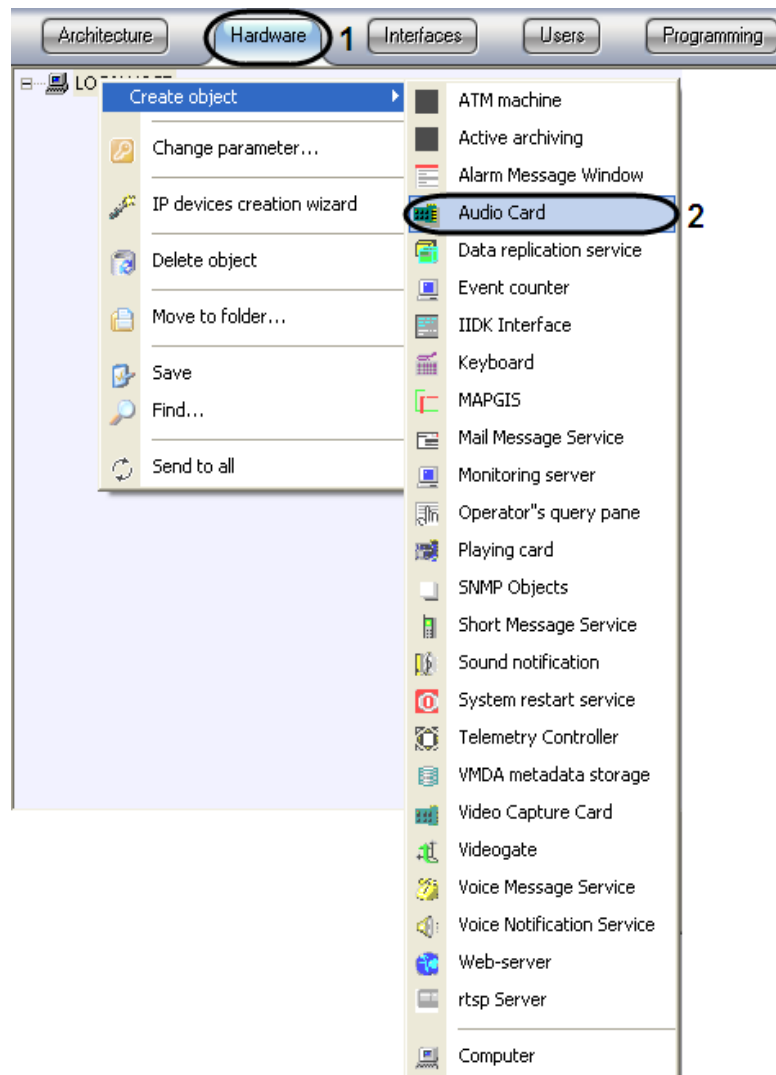

Figure 3.1-12 Context menu of the Computer object
1. Go to the **Hardware** tab in the **System settings** dialog box (Figure 3.1-12, 1).
2. Select **Create object -> Audio card** in the context menu of the **Computer** object (Figure 3.1-12, 2).